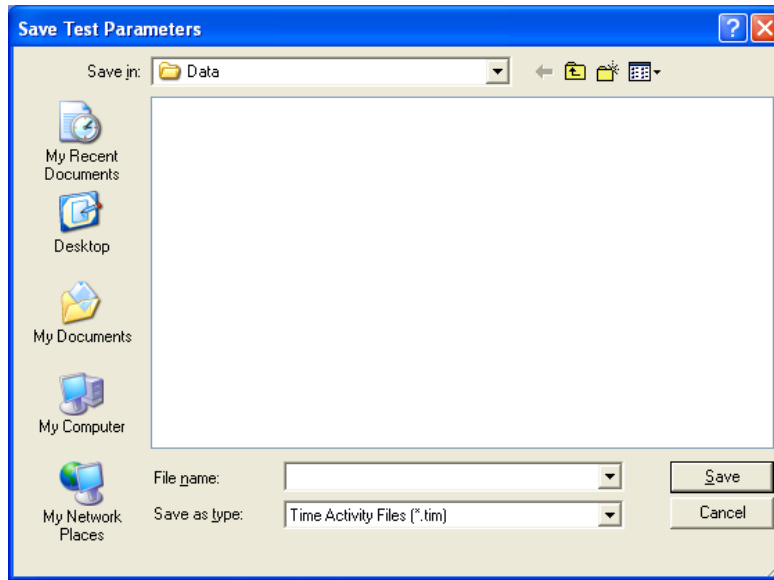

Figure 9-4
- v. To save the settings on the current screen to a file, click the **Save to File** button or press **Alt+S**. The screen appears as shown in Figure 9-4.